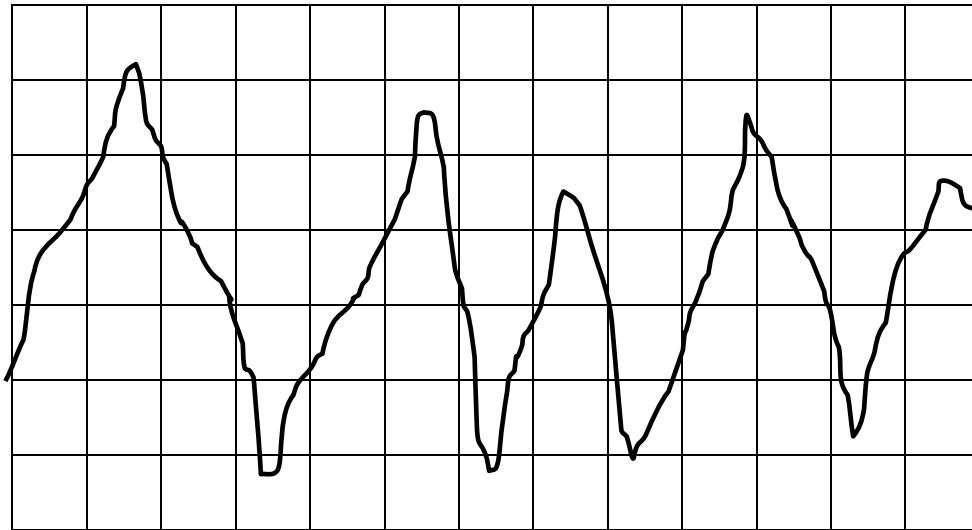

Figure Q5[d]
- [d] **Figure Q5[d] shows a trace obtained from a surface where each grid spacing in the horizontal direction represents 0.5 mm while each grid spacing in the vertical direction represents 0.001 mm. Determine its bearing area curve. Sketch how the bearing area curve will change if the surface is subjected to wear.**